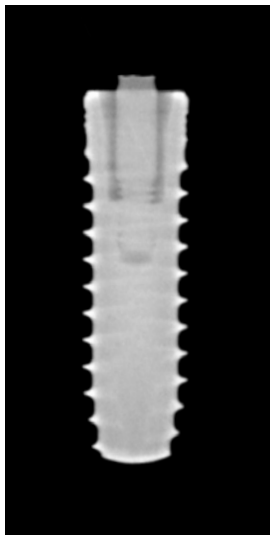
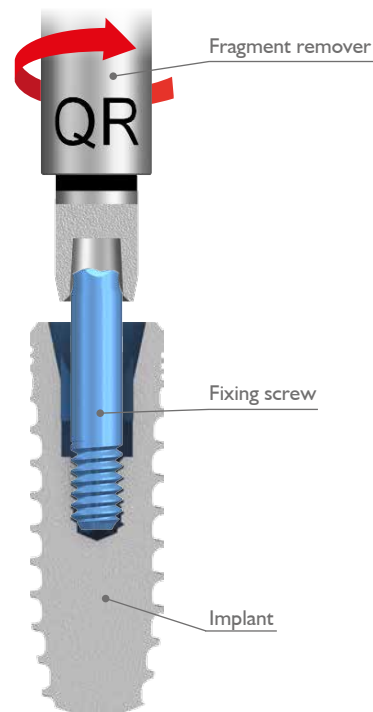

Fig. 1: BioniQ system – X-ray of a screw with a break under its head.
Fig. 2: BioniQ system – The fixing screw fragment is unscrewed using the fragment remover.
If the screw breaks under the head (Fig. 1), the fixing screw fragment can be unscrewed from the implant **counter clockwise** using the fragment remover (D) (Fig. 2).